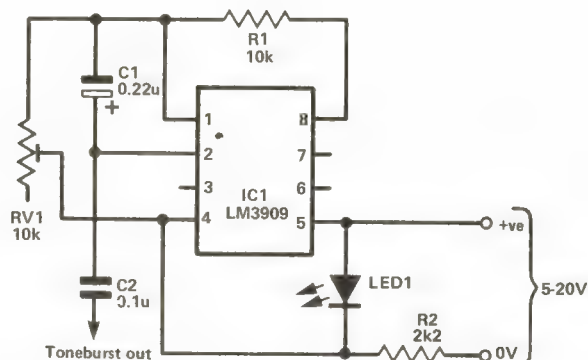

Figure 1: Manually timed toneburst circuit.
1) **Manually timed:** The LM3909 is a well known IC, designed to be a very low power 'battery-on' indicator. However, by using the circuit in *Figure 1*, it can be made to act as an audio oscillator, the frequency of which is adjustable via RV1. The problem with this IC is that it likes to operate at 1.5V – not your normal rig supply voltage! – so some sort of cheap regulation is needed. It is perhaps not well known that an LED will drop approx 1.5V across it when lit. So all we need is a suitable current limit resistor (R2) to prevent the LED from blowing up and we have, not only our regulator, but also a visual indication that power is being applied to the toneburst circuit.